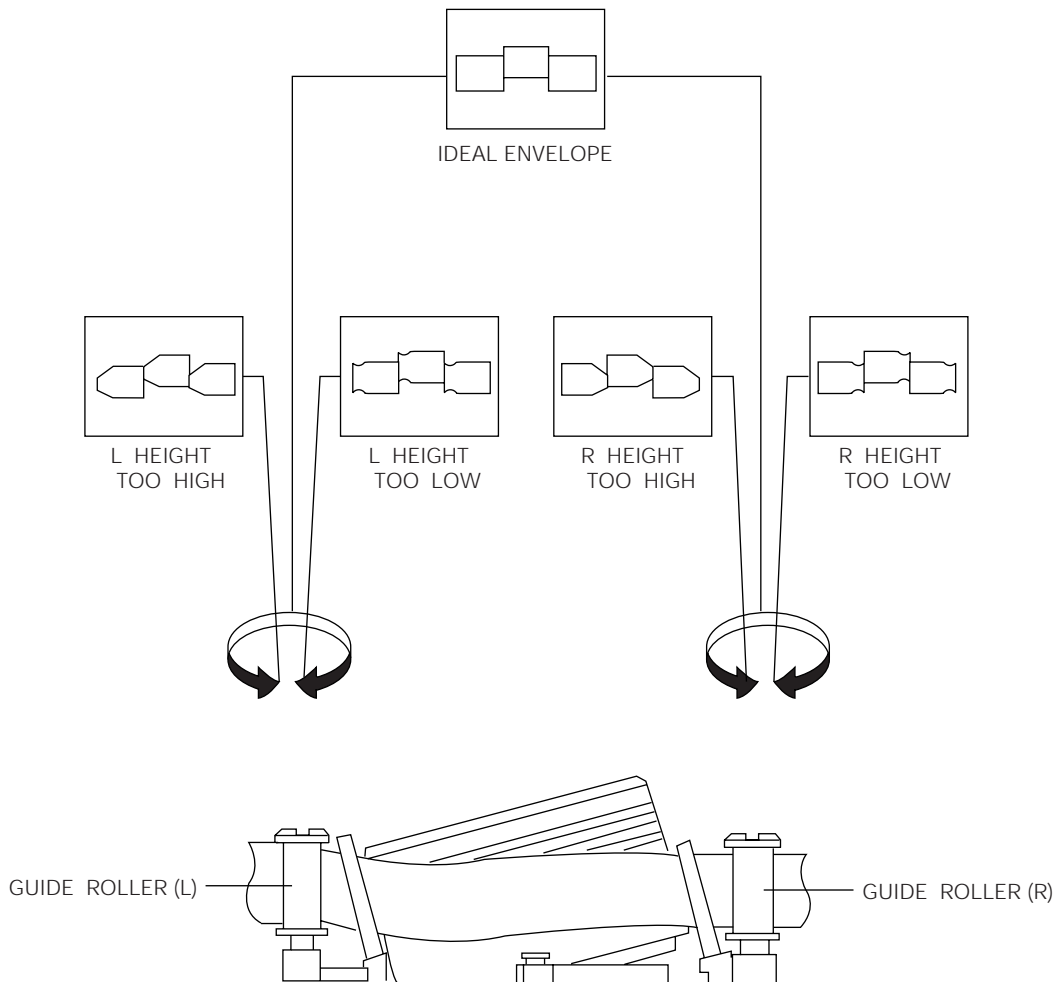

Fig. 4-67 S, T-Guide Roller Height Adjustment
8. Turn the guide roller heads with a flat head (  ) driver to obtain a flat video RF envelope as shown in Fig. 4-67.